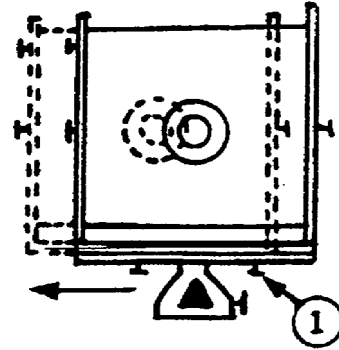

Figure 1-37. Sliding Frame.
(3) When the camera cannot be centered horizontally with respect to the subject because of an obstruction, centering of the subject on the ground glass may be obtained by sliding the front or rear frame, or both, with respect to its carriage. Slide the front or rear frame as follows:
(a) Loosen the respective slide and swing lock knob ①, (fig 1-37).